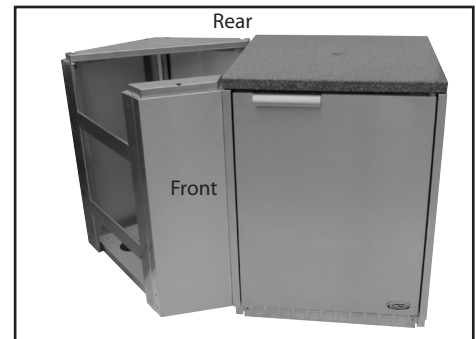

Fig. 14
3. Place the Bend Unit on top of the lifters, adjacent to the refrigerator (Fig. 14).